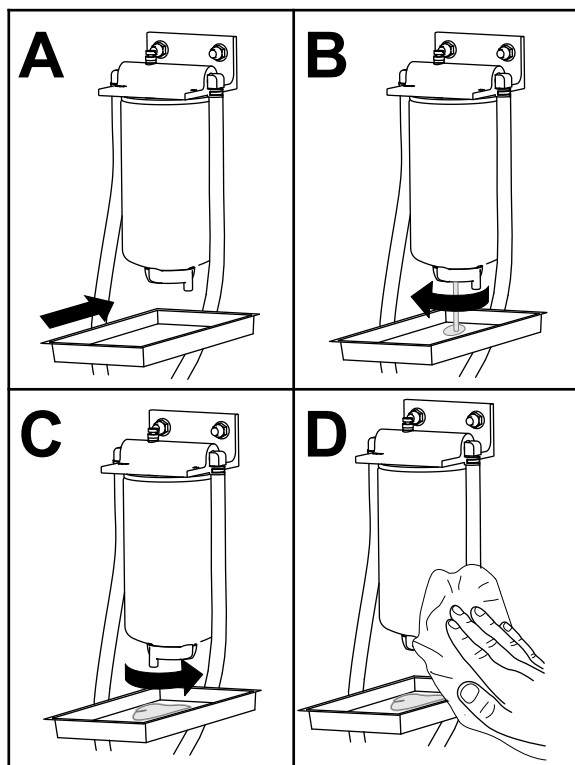

Figure 51
1. Drain water from the fuel/water separator as shown in Figure 51.